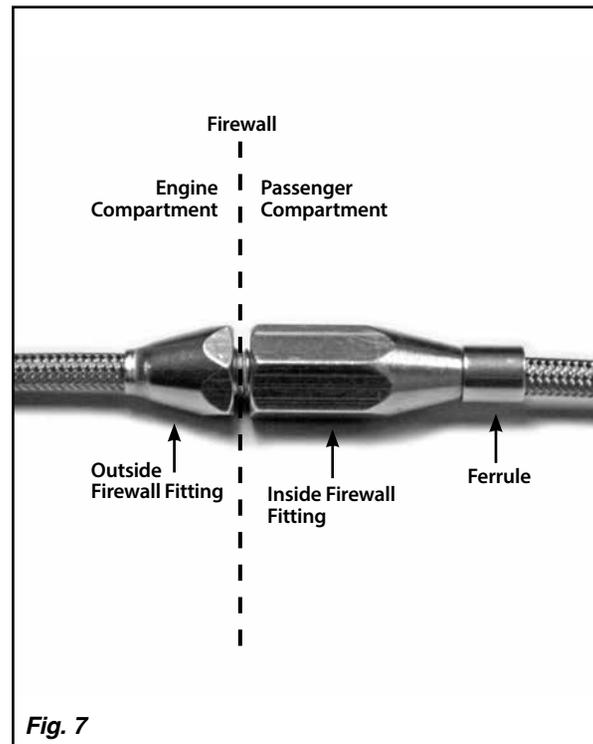
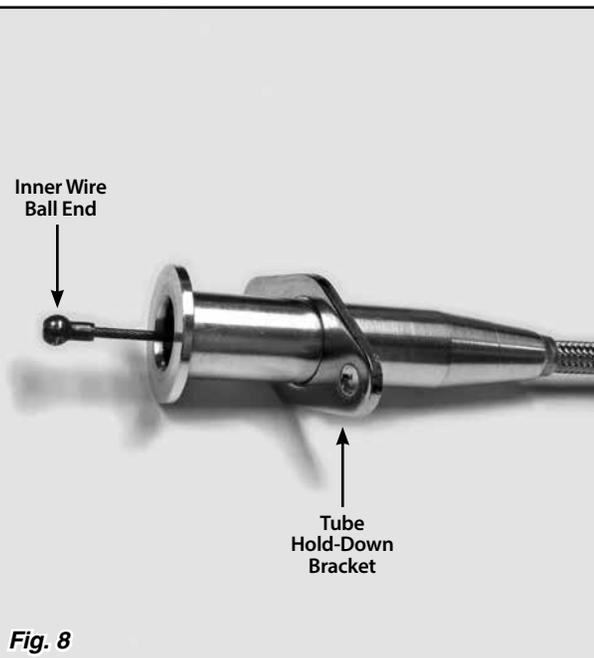

Fig. 7
Fig. 8
Step 10: This step will require two people in most cases. Insert the outside firewall fitting into the firewall hole from the engine compartment. From inside the passenger compartment, thread the inside firewall fitting onto the outside firewall fitting and tighten. Make sure the ferrule is in place on the firewall end of the passenger compartment cable housing, and the tube hold down bracket (**Fig. 8**) is on the opposite end of the cable housing. Insert the end of the cable housing with the ferrule into the inner firewall fitting. **Fig. 3 & Fig. 7**
Step 11: Feed the inner wire into the cruise control cable housing from the end that connects to the cruise module. Slide the inner wire ball end into the retainer slot on the cruise module, **Fig. 8**. Assemble the cruise control cable housing to the cruise module. **Fig. 9**